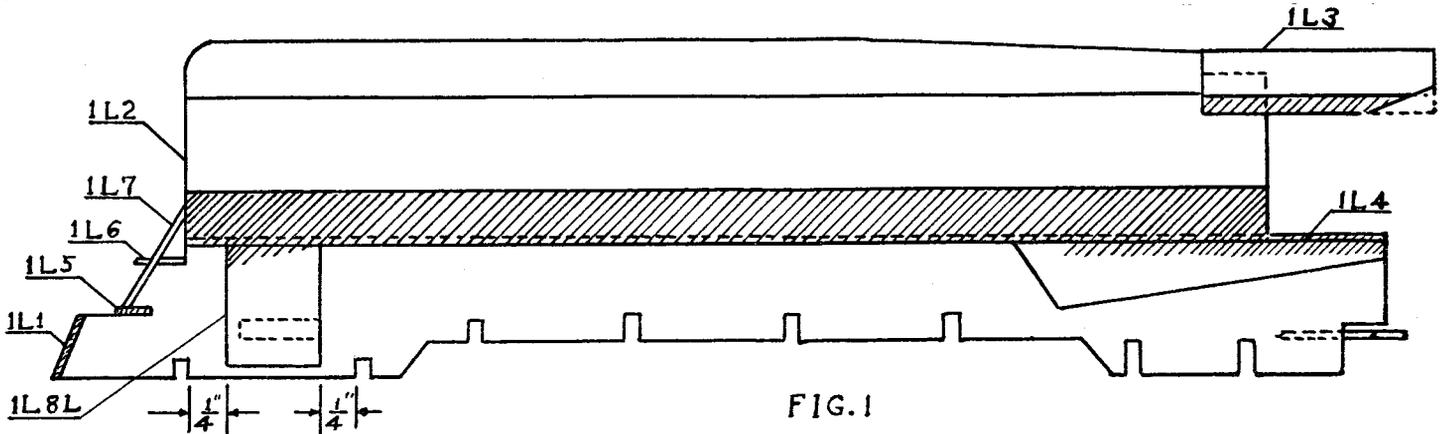

FIG. 1
The locomotive and tender are black. **DO NOT** paint the shaded areas shown in Figs. 1, 1A, 1C and 2, nor the underside of wheel trucks, as glue will not stick to painted surfaces. Assemble wheels to axles
**ASSEMBLE LOCOMOTIVE:** Sand the front end of the base (1L1) to about a 1 in. radius as shown in Fig. 1-C. Put eye coupler in rear end of base. See Fig. 1.
Glue boiler (1L2) to base so that joint at the front end is even. Sand underside of cab top (1L3) to shape as shown in Fig. 1. Glue in place. Next glue the two firebox sides (1L4) to the base. See Figs. 1 and 1B.
Glue step support (1L5) and platform (1L6) in place being careful to center accurately. See Figs. 1 and 1A. Break apart scored steps (1L7) fit between step support and boiler and glue in place. Sand ends of cylinders (1L8L and 1L8R) and glue in place with holes facing rear of engine.